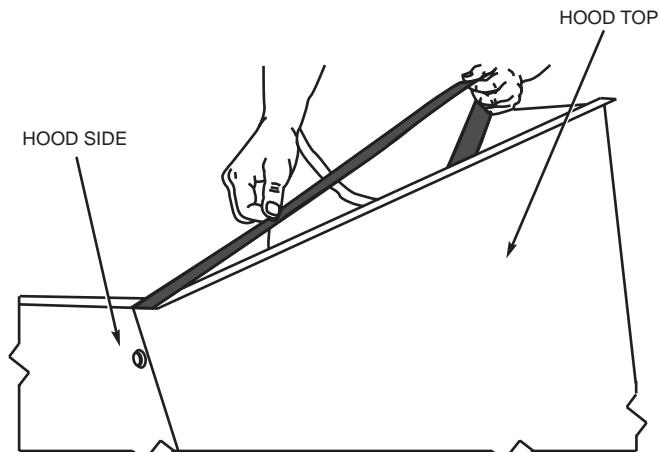

Fig. 19 — Add Seal Strip to Hood Top Mounting Flange
- e. Apply black seal strip to hood top mounting flange. Seal strip of hood top mounting flange must press against seal strip of hood side mounting flanges. See Fig. 19.